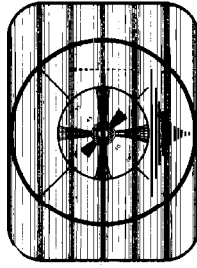

FIG. 9—SOUND-INTERFERENCE
12. **FINE TUNING**—A "bar" pattern, such as shown in Figure 9 flickering across the screen in step with the sound indicates that the receiver may be incorrectly tuned to the desired television station and the sound portion of the broadcast is interfering with the picture. That condition can be remedied by the special tuning adjustment screw which is accessible after removing the "Channel Selector" knob as illustrated in Figure 10.
Interference created by signals coming from a short wave transmitter that may be close to the receiver or operating on the wrong frequency will produce a pattern similar to that shown in Figure 9 but with the interference bars running diagonally across the picture.